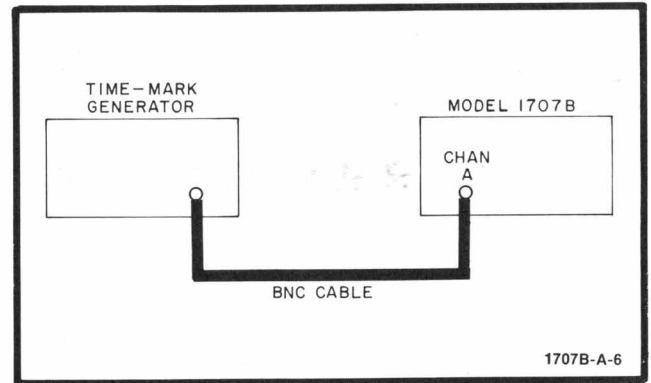

Figure 5-10. Delay Time Linearity Test Setup
- a. Connect instruments as shown in figure 5-10.